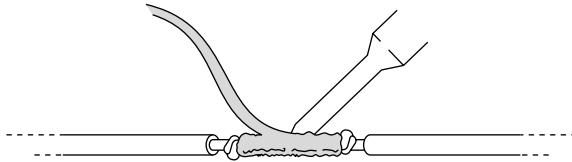

FIGURE 8-5: Solder melting into hot wires
5. Keeping the soldering tip in place, feed the solder into the junction as it melts until the twisted wires are coated with solder (see Figure 8-5).